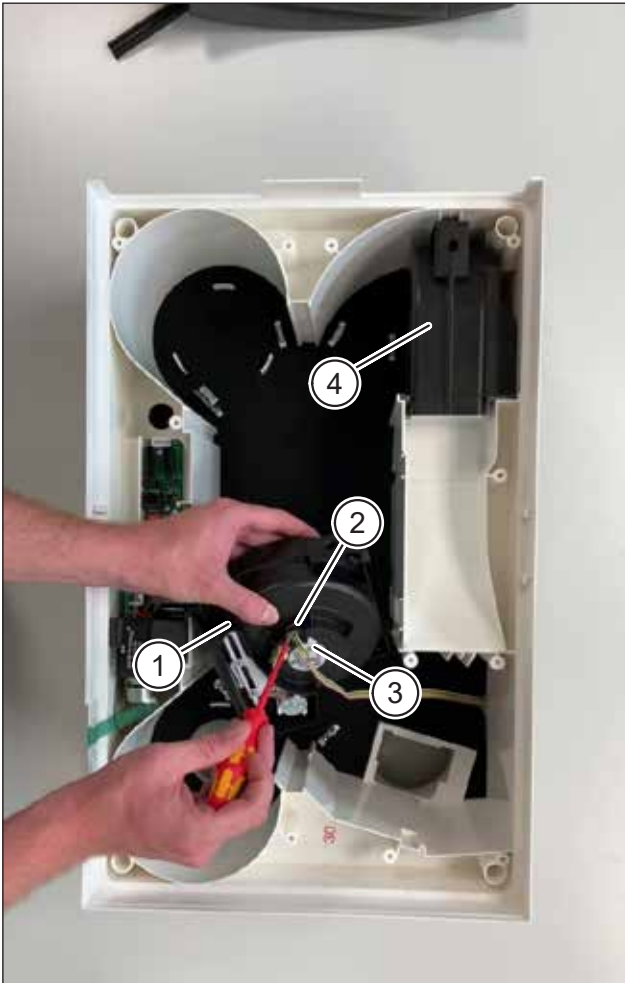

Fig. 5: Remove the exhaust air and supply air fans
- ▶ Pull the exhaust air fan (item 1 in Fig. 5) up and out.
- ▶ Remove the black retaining clip (item 2 in Fig. 5) from the exhaust air fan with a slotted screwdriver.
- ▶ Detach the two plug connectors (item 3 in Fig. 5) from the exhaust air fan.
- ▶ Repeat the process for the supply air fan (item 4 in Fig. 5).